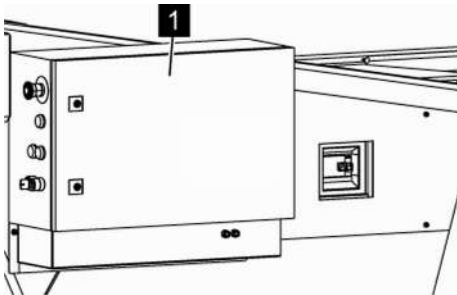

Fig. 172: Opening the control box door
2. ➤ Open control box door (Fig. 172/1) with the included double bit key (↪ Chapter 4.7.1 'Keys' on page 66).
4. ➤ Close control box door (Fig. 172/1) and lock with the double bit key.